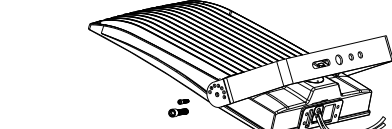

Figure 9
5. FLOOD MOUNTING (FM)
- Step 1: First install two big screwst. (Figure 9)